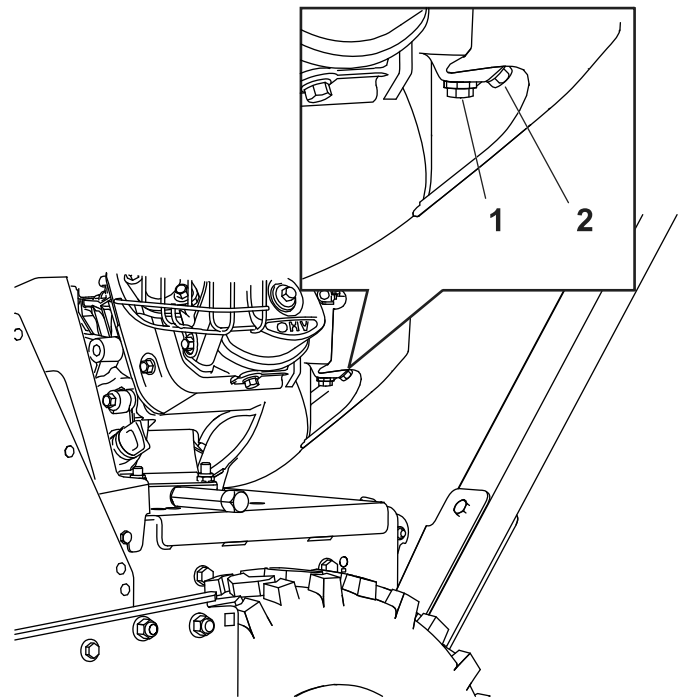

Figure 31
1. Locate the drain bolt that is in the side port of the carburetor bowl (Figure 31).